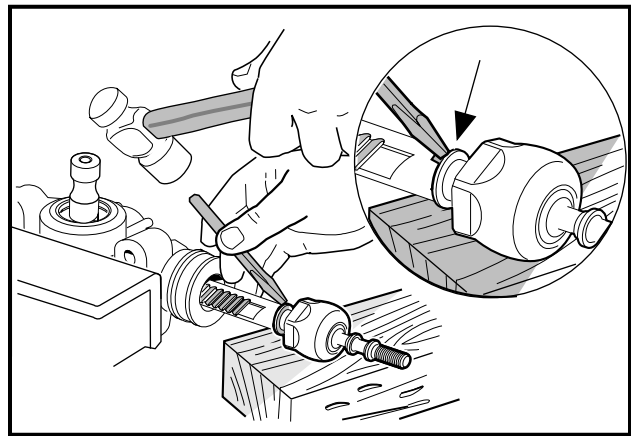

Figure 7-19 Remove Ball Joint
- 13.2. Tap the flange out of the notch in the rack (**Figure 7-19, Page 7-9**).